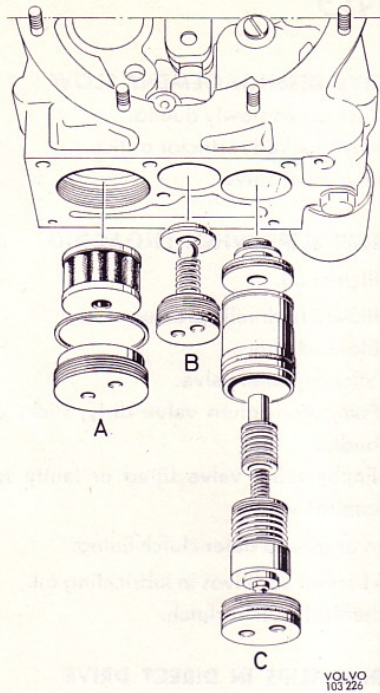

Fig. 33. Fitting the pressure filter (A), the oil pump non-return valve (B) and relief valve (C)
1. Fit the pressure filter. Also the relief valve components in the following order: relief valve body, dashpot sleeve, small piston unit, residual spring, large piston unit and dashpot plug, see Fig. 33.